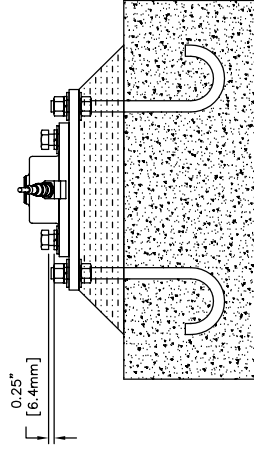

FIGURE 2: LEAVE 1/4" GAP FOR POSITIONING
- b. Install the bolts and nuts as required. DO NOT fully tighten the bolts at this time. Leave a 1/4-inch gap between the nut and the washer to allow for positioning of the Load Discs. (See Figure 2: Gap for positioning).
- d. Tighten the bolts, leaving a 1/4-inch gap for positioning. (See Figure 2 Gap for Positioning).